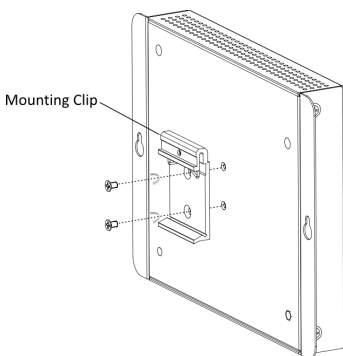

Figure 2-2 Fix the Mounting Clip to the Switch
1. Use the screws provided in the DIN rail kit to fix the mounting clip to the switch, as shown in Figure 2-2.